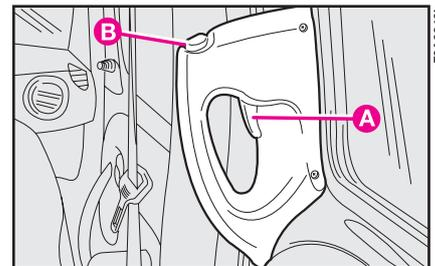

fig. 112
**Opening:** pull the release lever **A-fig. 112** and make the door slide backward.